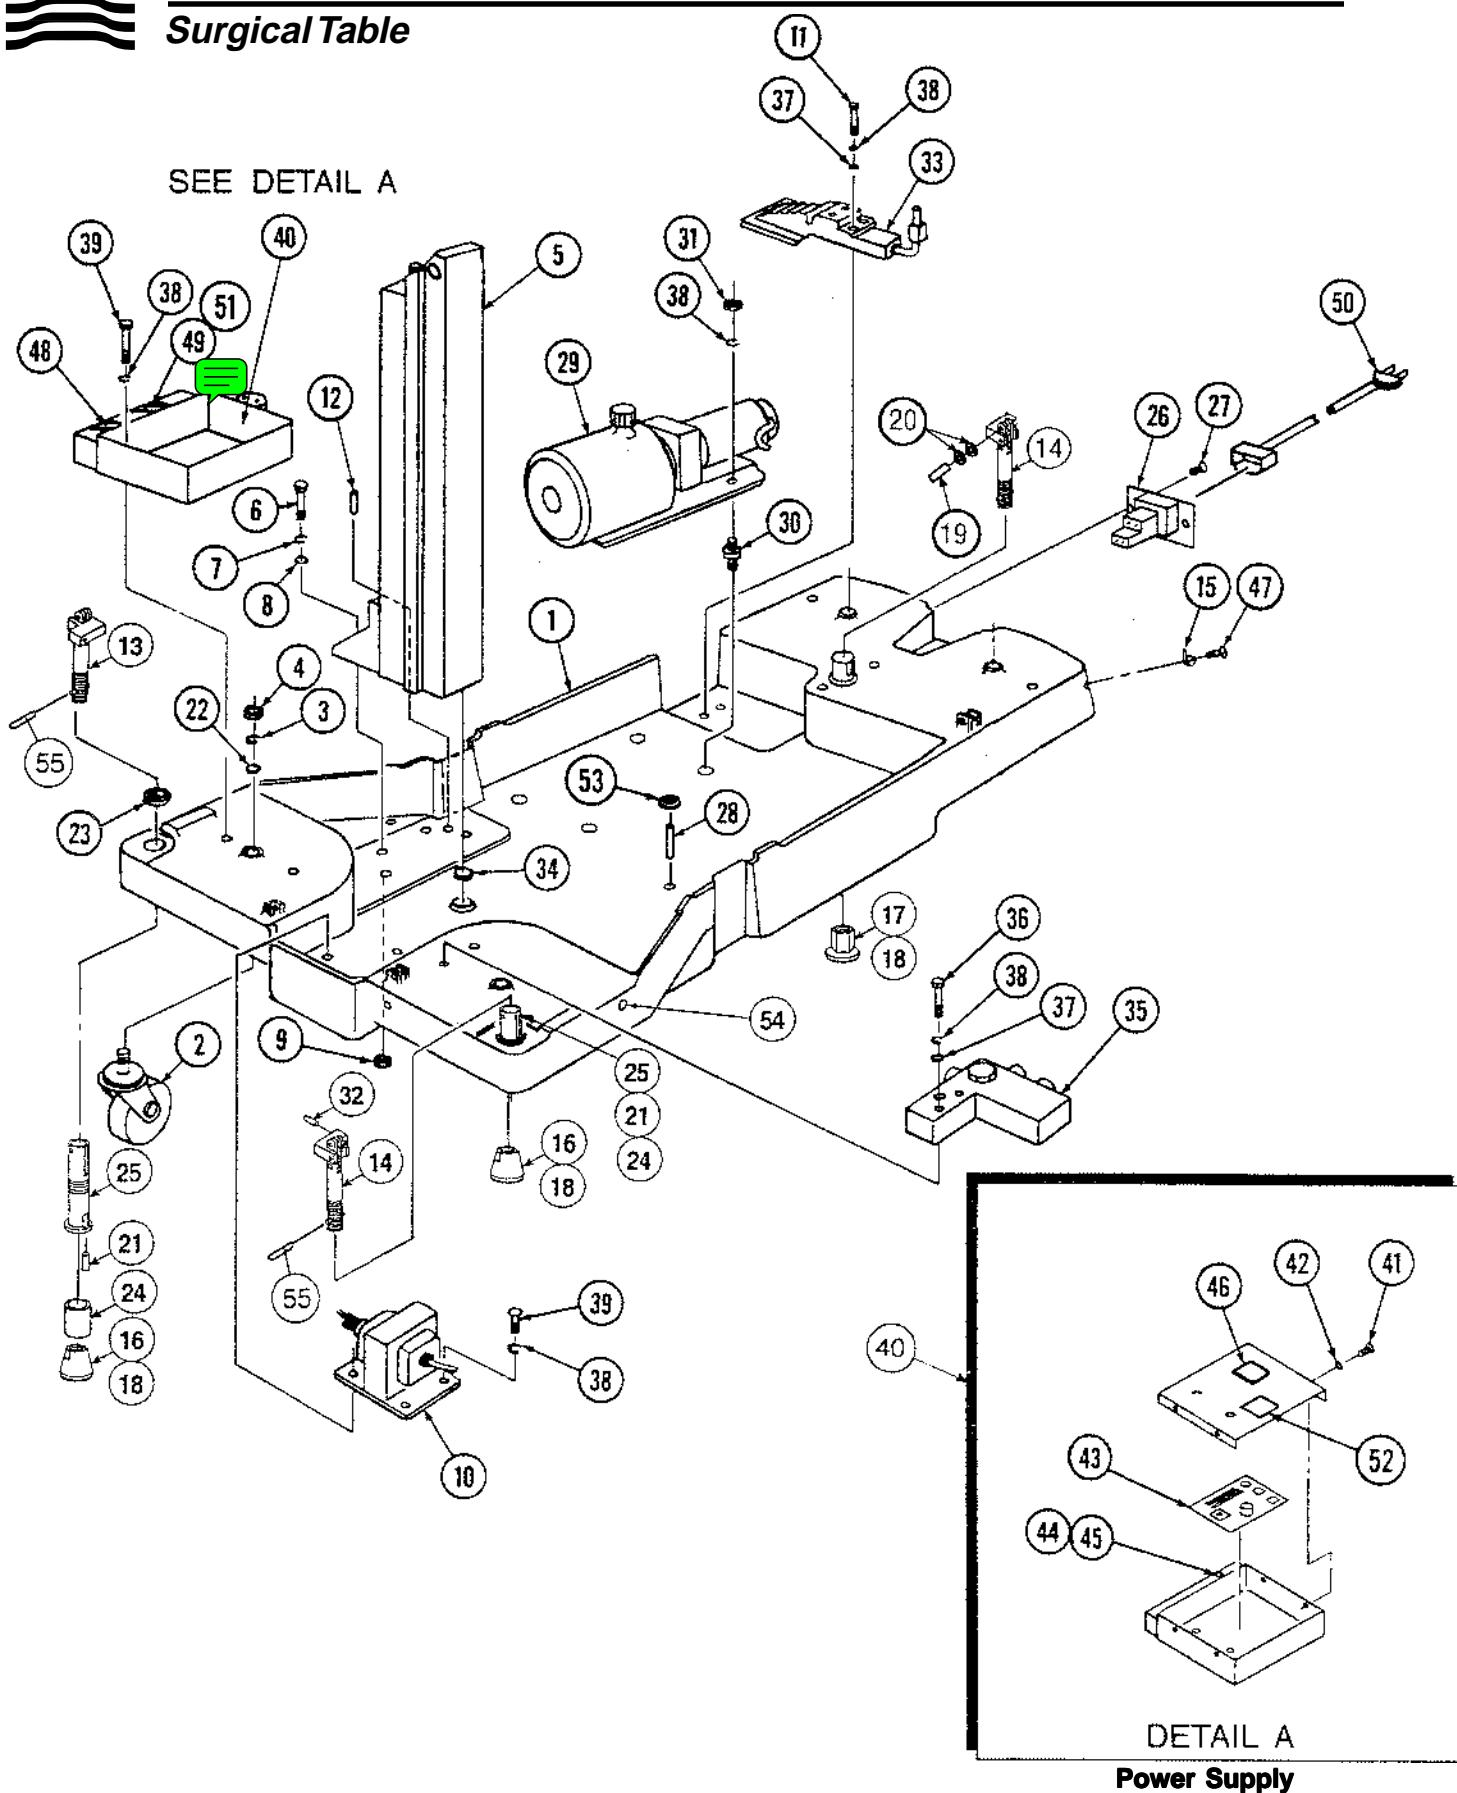

FIGURE 9-4. Table Base Assembly (Part 3 of 3)
* Item #'s 37 - 43 can be replaced as a complete assembly by ordering P-93908-634 (left-hand shaft and link assembly) or P-93908-635 (right-hand shaft and link assembly). See Figure 9-4, items 13 & 14 for a pictorial.